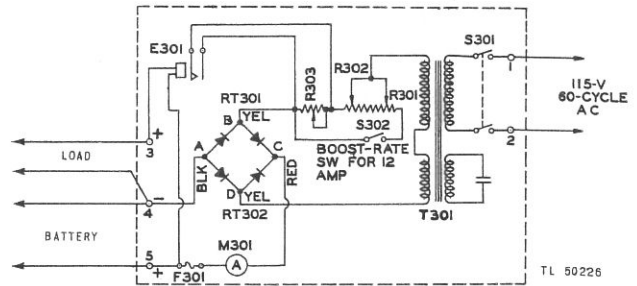

Figure 26—Rectifier, RA-54-A, schematic diagram
b. The a-c output voltage of the transformer is impressed upon the two selenium rectifier units (RT301 and RT302), which are connected to form a bridge circuit (fig. 26). When the alternating current is in one direction, it enters at point B and proceeds to point C, and from there through the positive terminal (5) to the battery. The circuit from the battery is completed through negative terminal (4), from A to D, back to the transformer. It is the nature of selenium-disk rectifiers to pass current in only one direction, so current cannot pass from B to A or from C to D. When the alternating current is in the opposite direction, it enters at point D, and proceeds to point C, and from there to the positive battery terminal. Return is from the negative